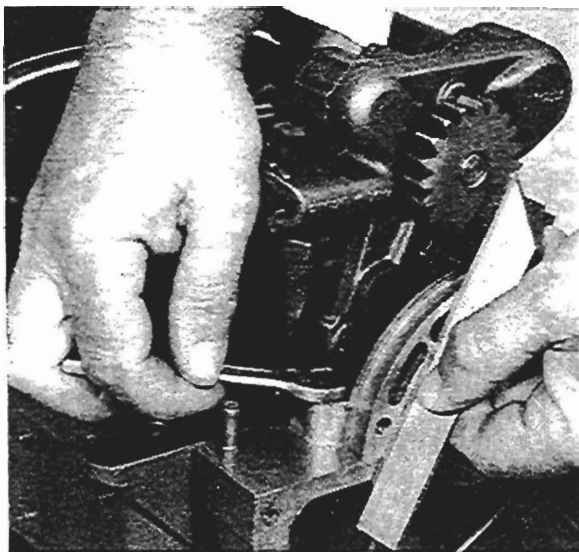

Fig. K12
3. Fit timing case bottom cover. Ensure it is correctly aligned with front face of timing case (see fig. K12).